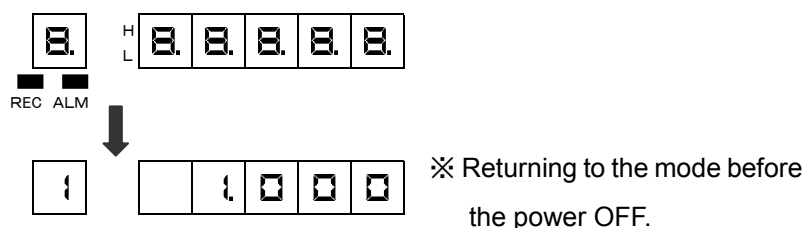

Fig. 6.1 Display Screen at Power-on
- (1) Display screen : The "REC" lamp keeps the status of before power-off.
- (2) Printout data : All printing data and analog recording data of before power-off are cleared.
- (3) Alarm and Diagnosis : Alarm indications and outputs of before power-off are not recovered.
- (4) Data display and Channel number are indicated as follows. Refer to Fig.6.1.